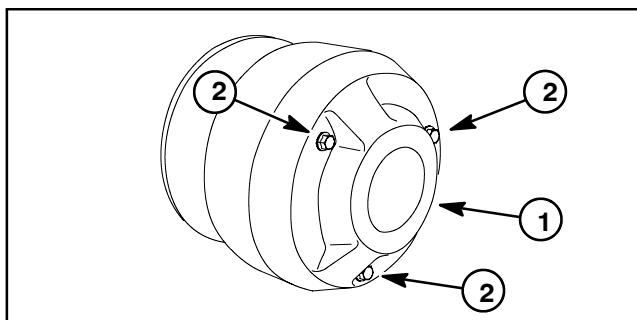

Figure 6
2. Remove the three (3) cap screws that secure the cover to the drive clutch (Fig. 6). Remove the cover from the clutch.